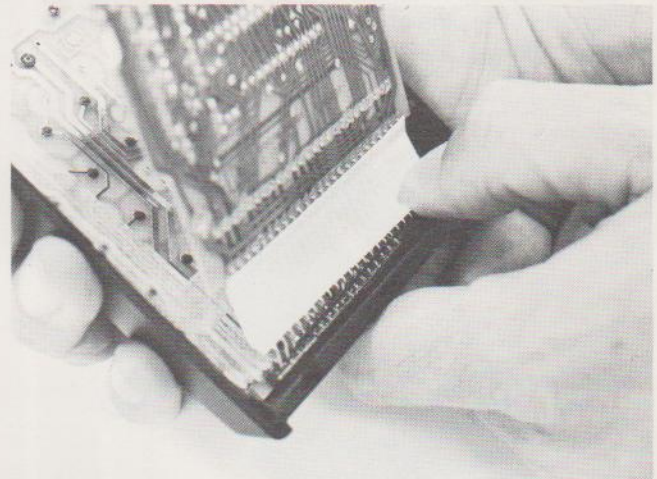

Figure 3-4. Securing Logic PCA to Keyboard PCA
- c. With your thumb, carefully press a few wires at a time firmly into their sockets. (See figure 3-4.) If necessary, push individual wires carefully with needle-nose pliers until each wire is secured in its socket.